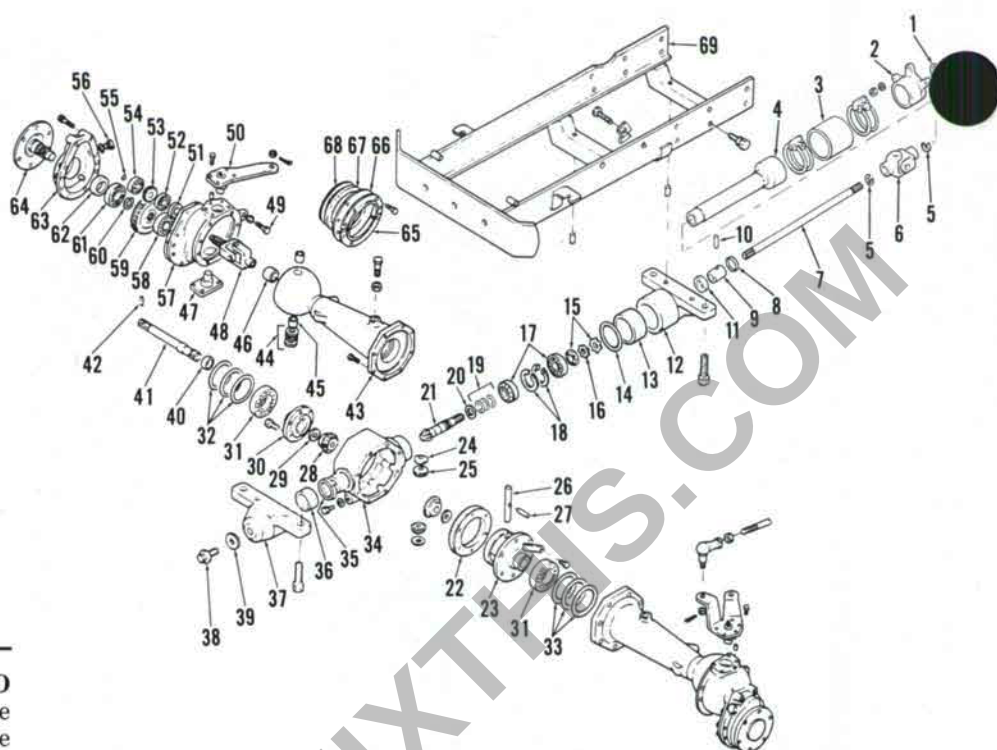

Fig. 7—Exploded view of front wheel drive axle used on 1100 and 1200 models.
Inspect axle pivot bushings (13 and 36-Figs. 7, 8 and 9) for wear or damage. Renew bushings if clearance
The differential and ring gear (22 through 30—Figs. 7, 8 and 9) can be removed after unbolting and separating axle shaft housings from center housing (34). Bevel pinion (21) can be removed after removing nuts (15) from shaft.